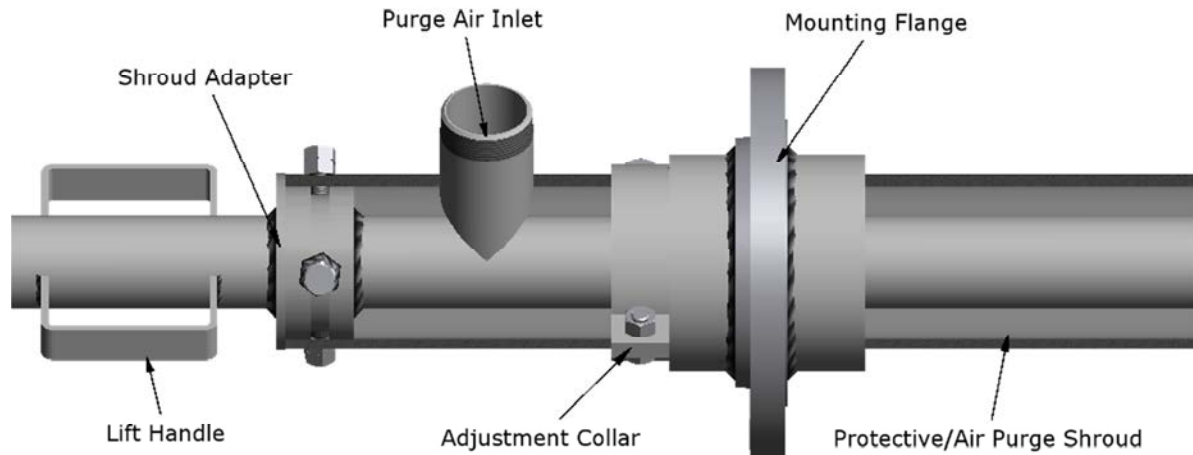

Figure 5: Optional Mounting Components
- Figure 5: Optional Mounting Components 8
- **Shroud Adapter:** The shroud adapter is for removing the lance from the system without removing the shroud, mounting flange, or changing the inserted length of the lance. (See Figure 5)
- **Adjustment Collar:** The adjustable collar allows the user to vary the insertion length. The collar is non-sealing and meant for systems at atmospheric pressure or under vacuum. (See Figure 5)